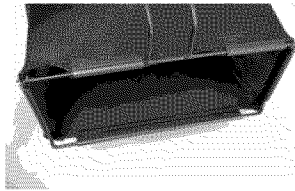

Figure 13 - Attached Bag
3. The plastic clips on the cloth bag attach from the inside of the rectangular wire frame. There are 2 clips on top, 1 on each side and 1 on the bottom. (see Figure 13)